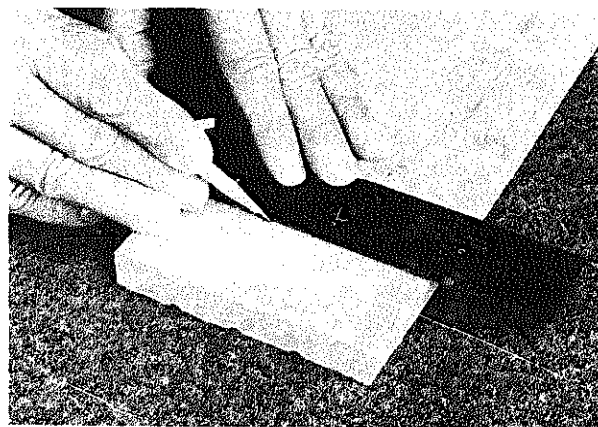

Fig. 4-25 Squaring a mark with the try square
2. Draw a line along the outer edge of the blade as shown in figure 4-25.